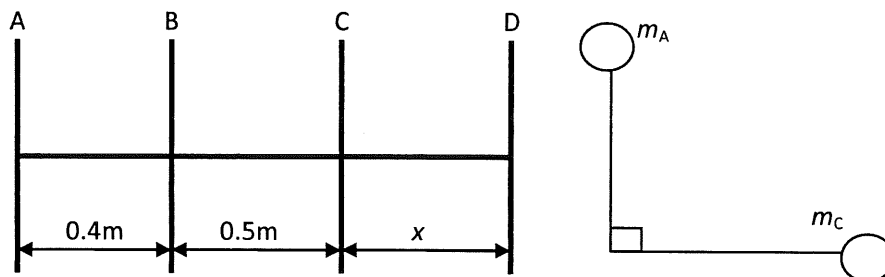

Figure 2
- c) A rotating shaft at constant angular velocity carries four masses, A, B, C and D, rigidly attached to it as shown in Figure 2 and the centers of mass are at 30 mm, 36 mm, 39 mm and 33 mm respectively from the axis of rotation. The mass of A, C and D are 7.5 kg, 5 kg and 4 kg. The axial distance between A and B is 400 mm and that between B and C is 500 mm. The eccentricities of A and C are  $90^\circ$  to one another and B is starting point. If the system is fully balance, **determine**